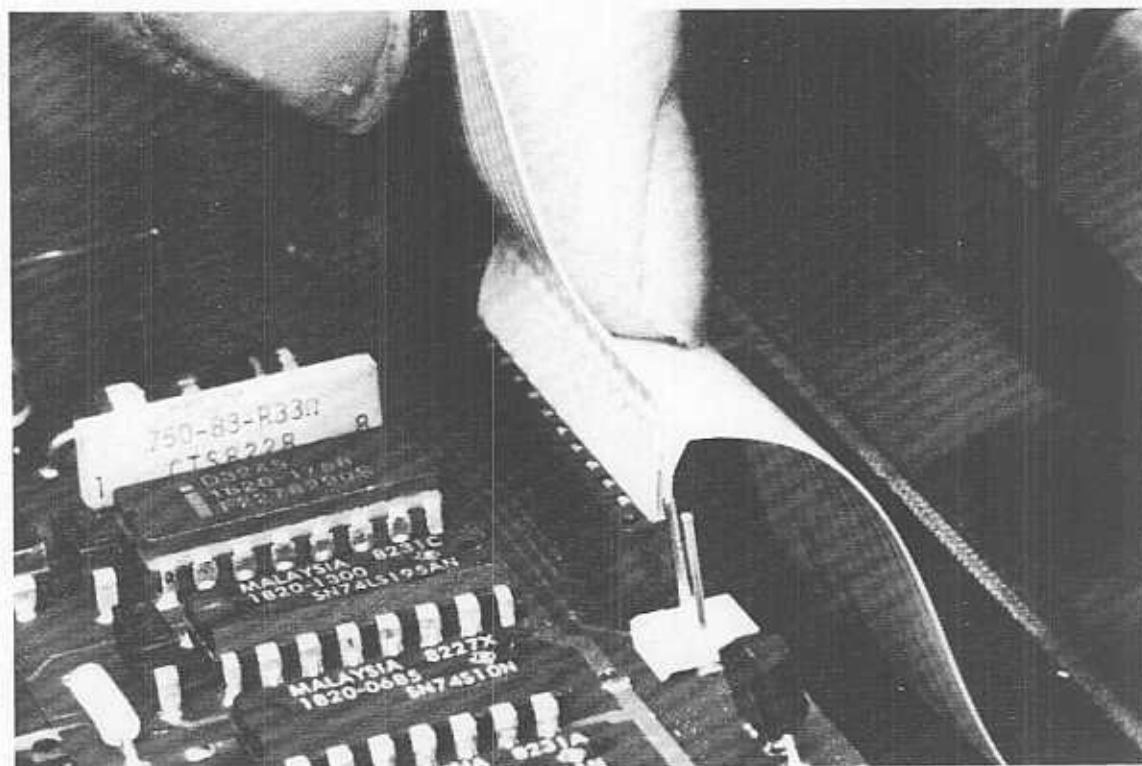

Figure 3-5. Removing a Trapped Cable
- a. Insert a spare cable of the same type and width into the connector between the trapped cable and the connector contacts. (See figure 3-5.) The contacts of the spare cable should face the contacts of the trapped cable, not the contacts of the connector.